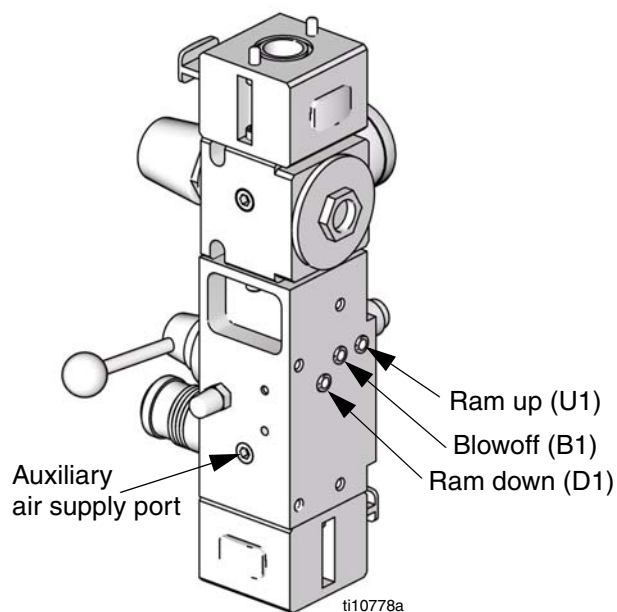

FIG. 5
14. Connect blowoff air (B1) to blowoff air connector on platen. See FIG. 5